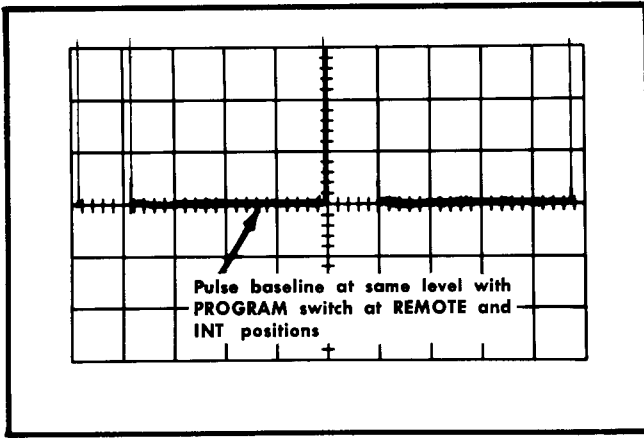

Fig. 7-19. Typical test oscilloscope display for checking offset registration (see step 14).
h. Check for—Test oscilloscope display with the pulse baseline at the horizontal centerline ± 5 mm (see Fig. 7-19).